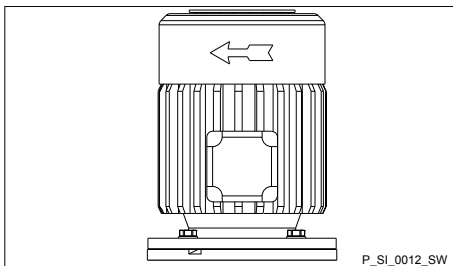

Fig. 19: Direction of rotation of motor
- When connecting the motor, pay attention to the correct direction of rotation, indicated by the arrow on the fan cover, as shown in Fig. 19.